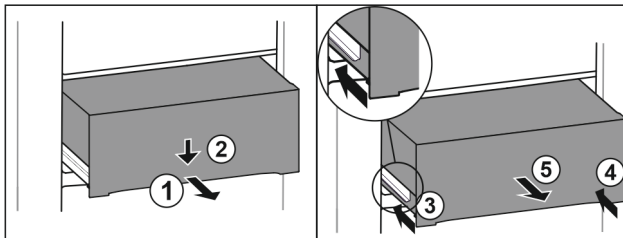

Fig. 183
- Pull out drawer half-way. Fig. 183 (1)
- Push the drawer down at the front. Fig. 183 (2)
- Push the left rail in by about 2 cm. Fig. 183 (3)
- Push the right rail in by about 2 cm. Fig. 183 (4)
- Remove drawer to the front. Fig. 183 (5)